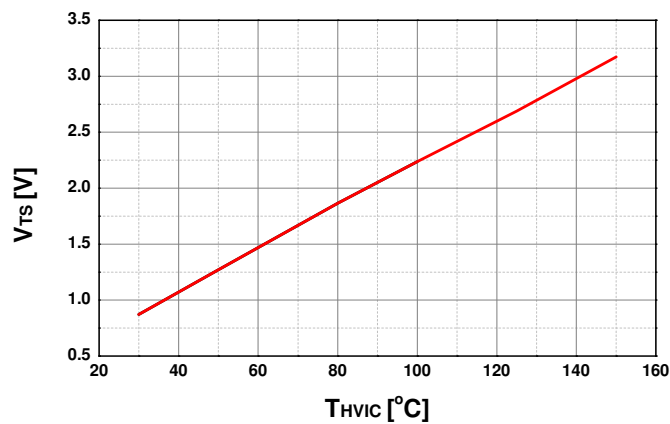

Figure 6. Temperature Profile of V_{ts} (Typical)
- t_{ON} and t_{OFF} include the propagation delay of the internal drive IC. Listed values are measured at the laboratory test condition, and they can be different according to the field applications due to the effect of different printed circuit boards and wirings. Please see Figure 6 for the switching time definition with the switching test circuit of Figure 8.